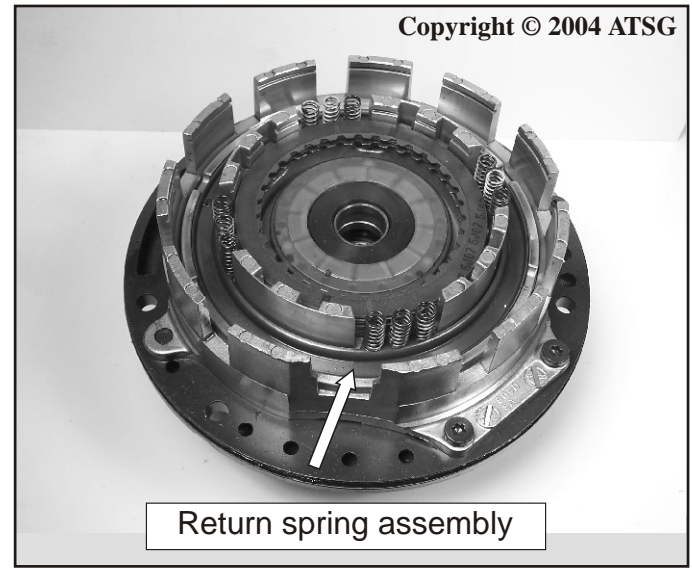

Figure 122
69. Assemble the return spring assembly into the housing as shown in Figure 122.